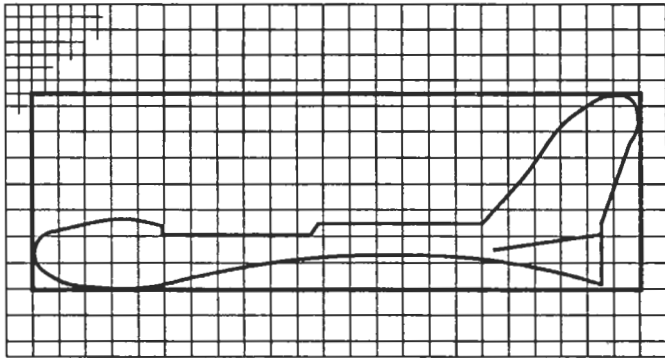

Figure 3 - Fuselage Shape
2. Plot points for your fuselage shape within the limits of the 75mm x 230mm blank; then darken in the object lines. (See Figure 3.)